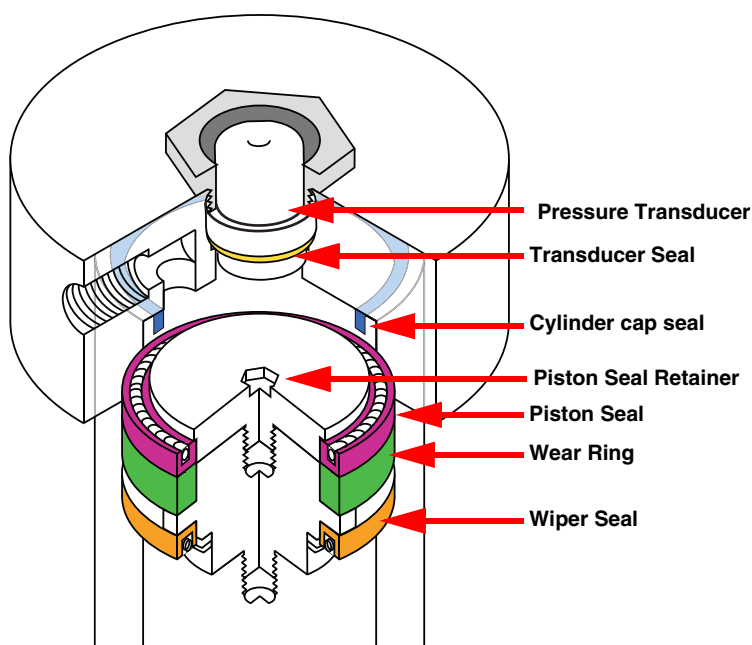

Figure 2-11 Inside the pump cylinder: wetted materials
- Wiper seal - The wiper seal cleans the inside of the cylinder. In the model 1000x pump, the wiper seal faces the same direction as the piston seal to prevent leakage of the wash gland fluid. All other models have the bottom seal facing down as shown in Figure 2-11.